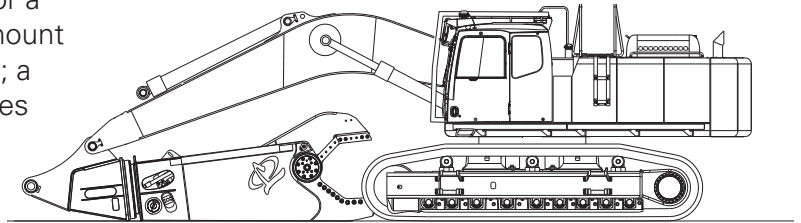

FIGURE 3-1
4. With the jaws of the shear facing the excavator, walk the excavator into position, aligning the excavator's boom or stick into the boom pivot or stick connection of the shear bracket (see **Figure 3-1**).